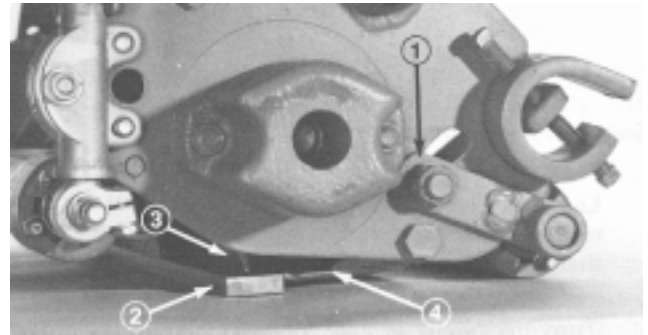

Figure 16
1. Mount the rear roller and height-of-cut brackets onto the cutting unit. For height-of-cut settings 1/4 in. (6 mm) or below, set one bracket in the side plate to 1/8 in. (3 mm) from the bottom of the slot and tighten the nut on the capscrow. Leave the bracket on the other side mounted loosely (Fig. 16). For height-of-cut settings above 1/4 in. (6 mm), center the bracket in the slot and tighten the nut.
2. Place a 1/4 in. (6 mm) or thicker plate under the reel blades and against the cutting edge of the bedknife (Fig. 16).